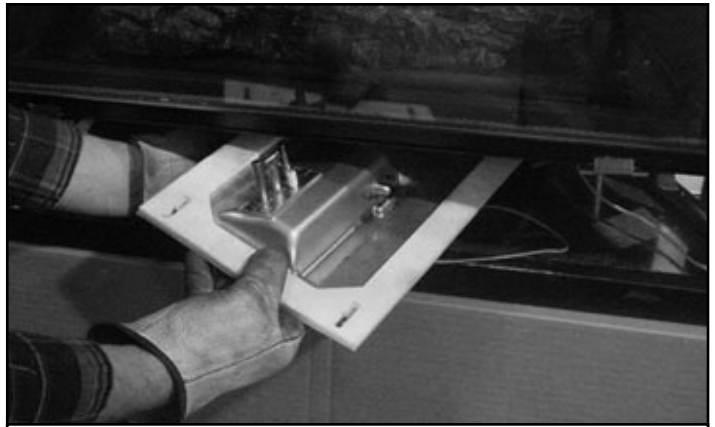

Figure 1.1 Valve Plate
- Rotate the valve plate assembly horizontally so the pilot assembly comes out first from the valve compartment. See Figure 1.1. Care should be used to not damage the pilot when removing the valve plate assembly.